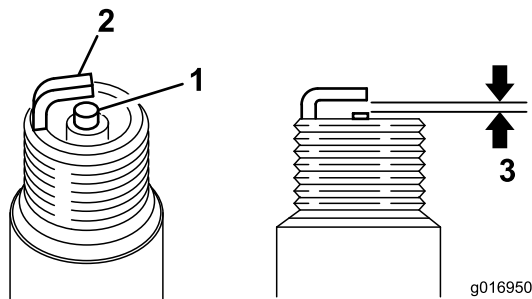

Figure 35
3. Set the air gap at 0.6 to 0.7 mm (0.024 to 0.028 inch) (Figure 35). Install the correctly gapped spark plug and tighten it firmly to 23 N-m (17 ft.-lb).